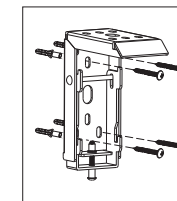

Figure 4
- b) Drywall and ceiling and installation: Install the anchors and drill in the $\phi 5 \times 40$ screws into the appropriate bracket holes (Figure 4 - 5).